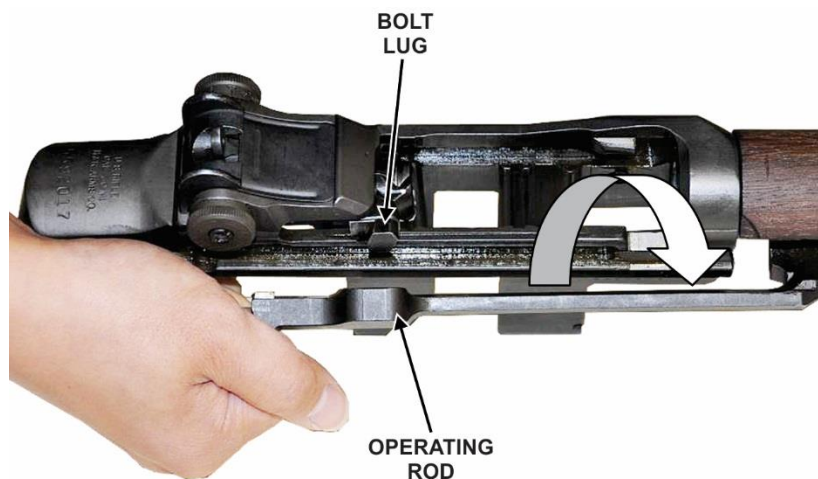

Figure 22. Operating rod removal
- 6) Apply upward force and then rotate the handle clockwise to separate it from the bolt lug (fig 22). You may need to jiggle the operating rod slightly to disengage it. Remove the operating rod.